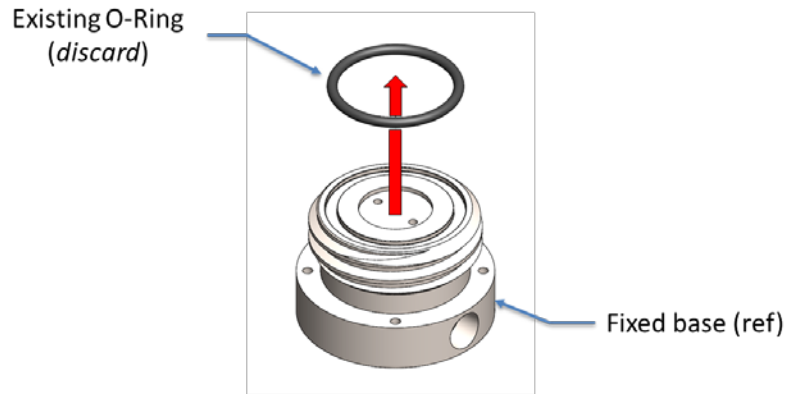

Figure 6, O-ring removal
3. Remove and discard the existing O-ring from end cap refer to Figure 6.